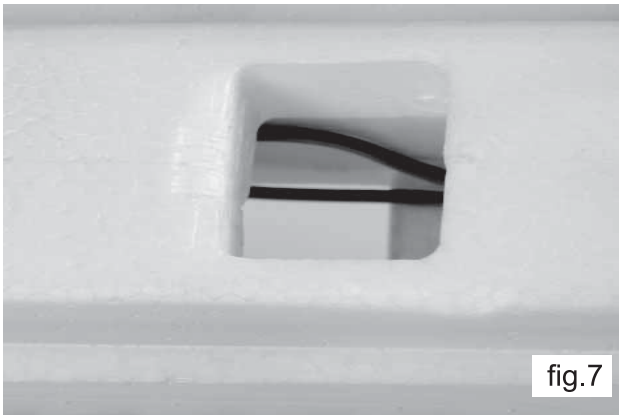

fig.7
- 7) Locate the fuselage “C”, remove the canopy, and turn the fuselage over so the bottom side is facing up (fig. 7).